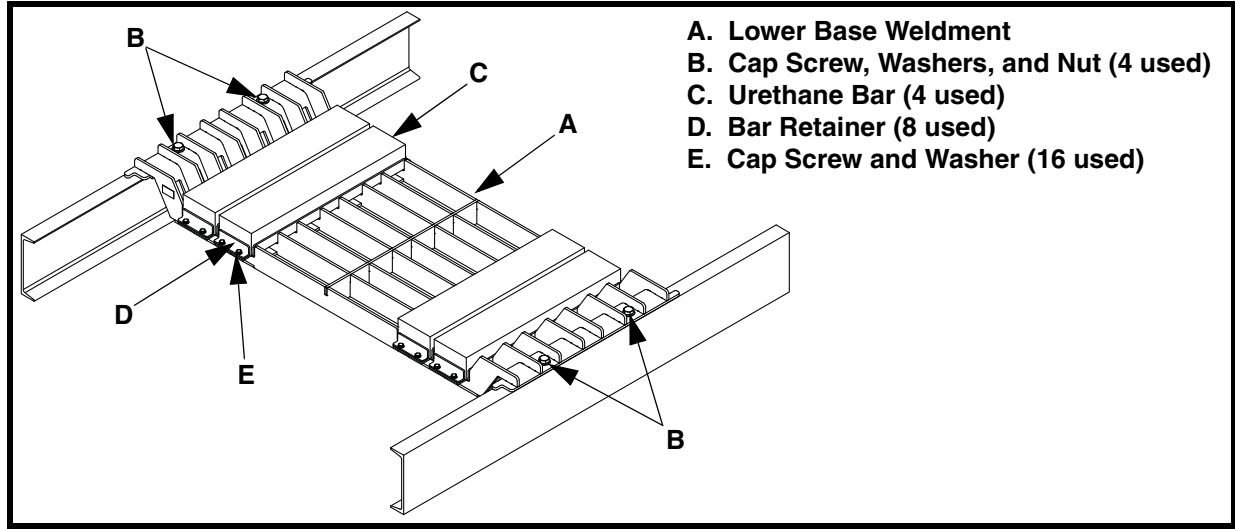

**Figure 1. Measuring for Impact Cradle**
1. See Figure 1. The distance between top of belt and bottom of wear liners must increase over length of transfer point. If necessary, modify chute walls and/or wear liners.
1. Mark location of lower base weldment (A) on stringers. See Figure 1 for mounting dimensions.